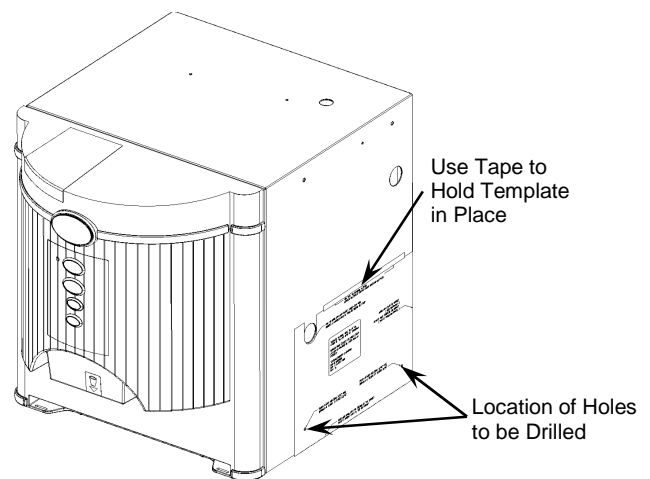

Figure 2b – Tape the template in place, then mark & drill the holes.
5. Mark the center of the holes to be drilled with a center punch (*figure 2b*).